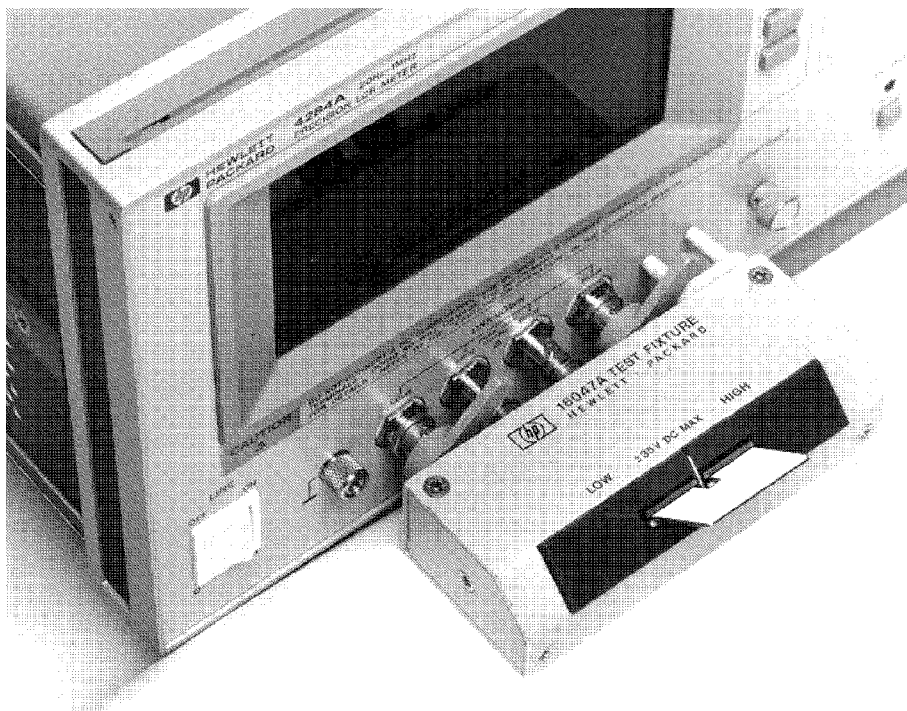

Figure 6-24. Connecting A Shorting Bar
- f. Connect a shorting bar to the 16047A to set up the SHORT condition as shown in Figure 6-24.